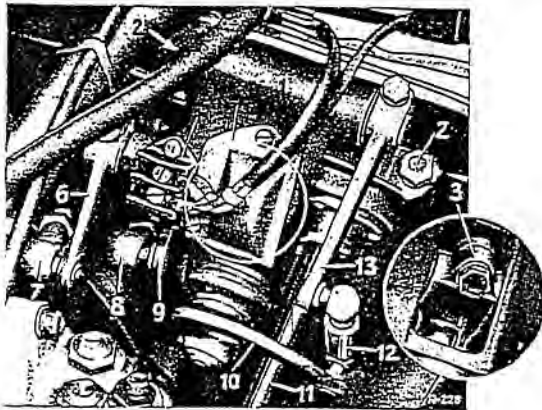

Fig. 25-15/1
2. Disconnect the two reversing light switch cables at the cable connector (5) (Fig. 25-15/1).